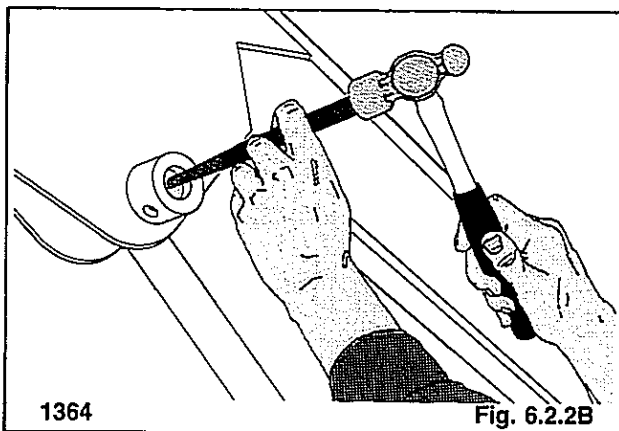

Fig. 6.2.2B
6. Install the pivot pins in the boom arms and lift cylinders (Fig. 6.2.2B).